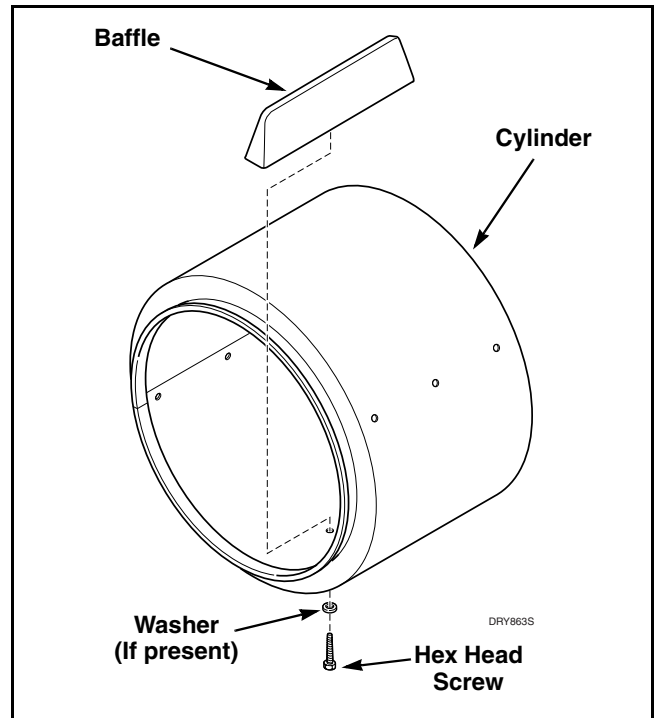

Figure 36
- Remove screws (and washer if present) holding baffles to cylinder. Refer to *Figure 36*.